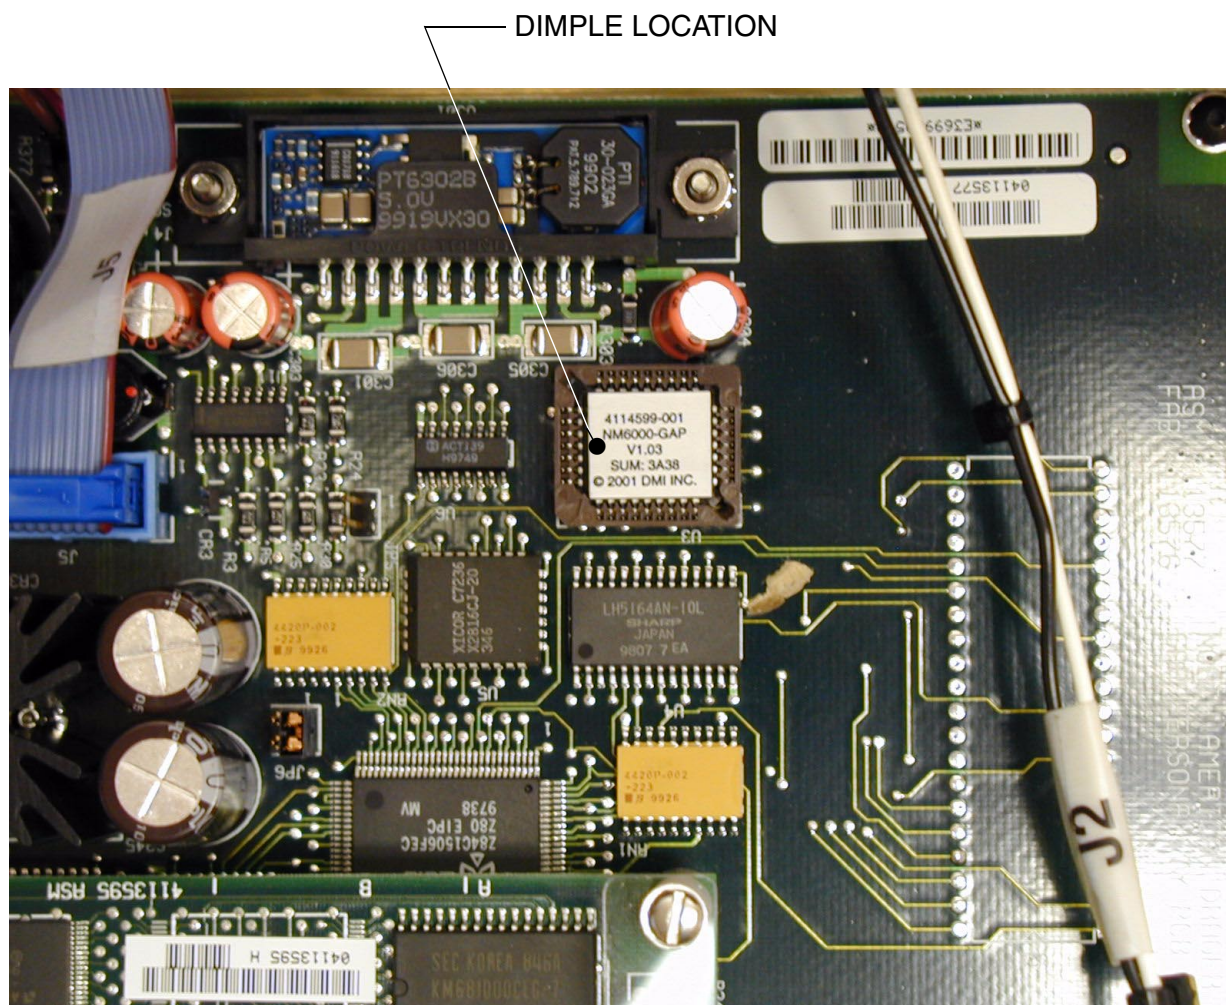

FIGURE 16. GAP Personality PCB
- 7.12 On the new GAI firmware P/N 4114599-001: peel back the label's edge to verify the location of its dimple. Orient the firmware as shown in Figure 16 and insert it firmly into the socket.